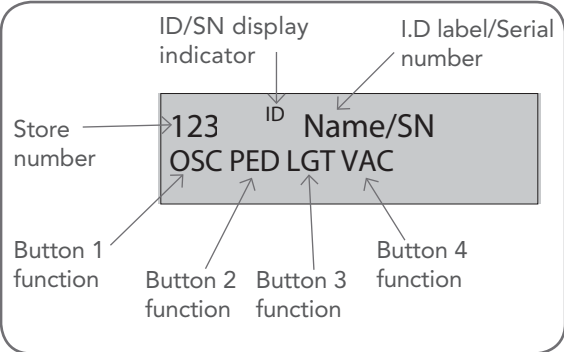

Fig 10.1
- Reprofiling is a simplified way of re-learning the travel characteristic of a previously setup Limit Switch travel installation. Re-profiling can be used when the travel characteristics of the gate(s) change due to mechanical adjustments etc. To initiate a re-profile, simply locate "MENU 10.3 Reprofile Travel", press SET and follow the prompts. The gate(s) will start to move and re-calculate force margins. The gate(s) can move between the open and close limit positions up to two (2) times (depending on the position of the gate(s) and the power up condition).
DCB-05V2 can store up to thirty (30) transmitters in its memory. Each transmitter can be allocated an alpha-numeric ID label up to eleven (11) characters in length and each button can be assigned to one of several control functions. The settings for a transmitter are represented in **(Fig. 10.1)**. It shows the transmitter's store number, ID label or serial number and the functions assigned to each of its four buttons. To toggle between ID/SN display, press UP/DOWN with the cursor on the ID/SN indicator. The procedures below code, delete, replace, edit and copy transmitter records.